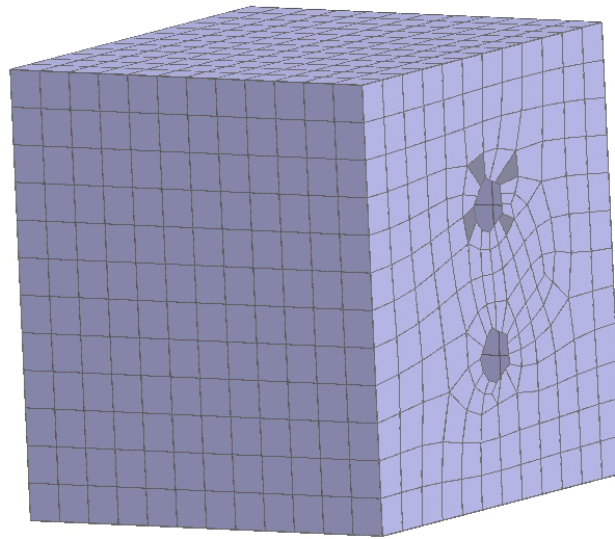

Figure A.35 Select elements for creating a seam.
- Left-click on the elements around the edge of a hole while holding the *shift-key*. Make sure to select elements with nodes on the hole edge as shown in Figure A.35.